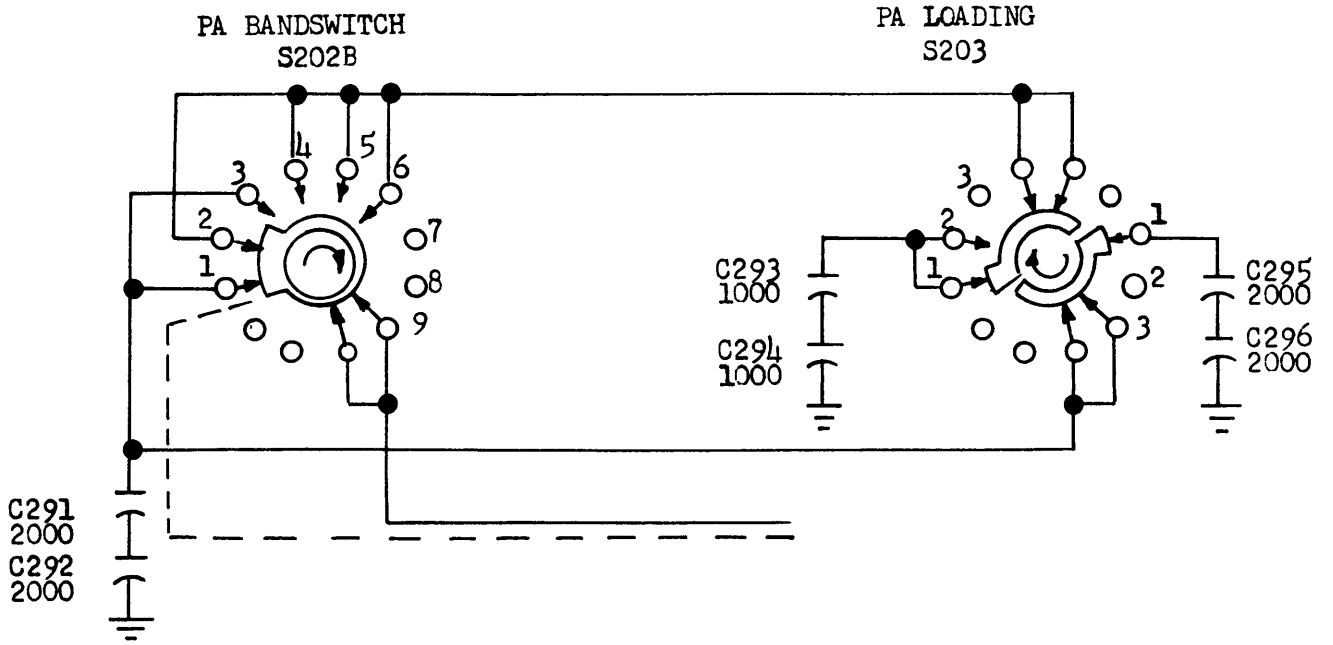

Figure 3.
f. The PA BANDSWITCH and PA LOADING switch circuitry of figure 8-1 (page 8-1/8-2) should be changed in accordance with figure 3 of this addendum.